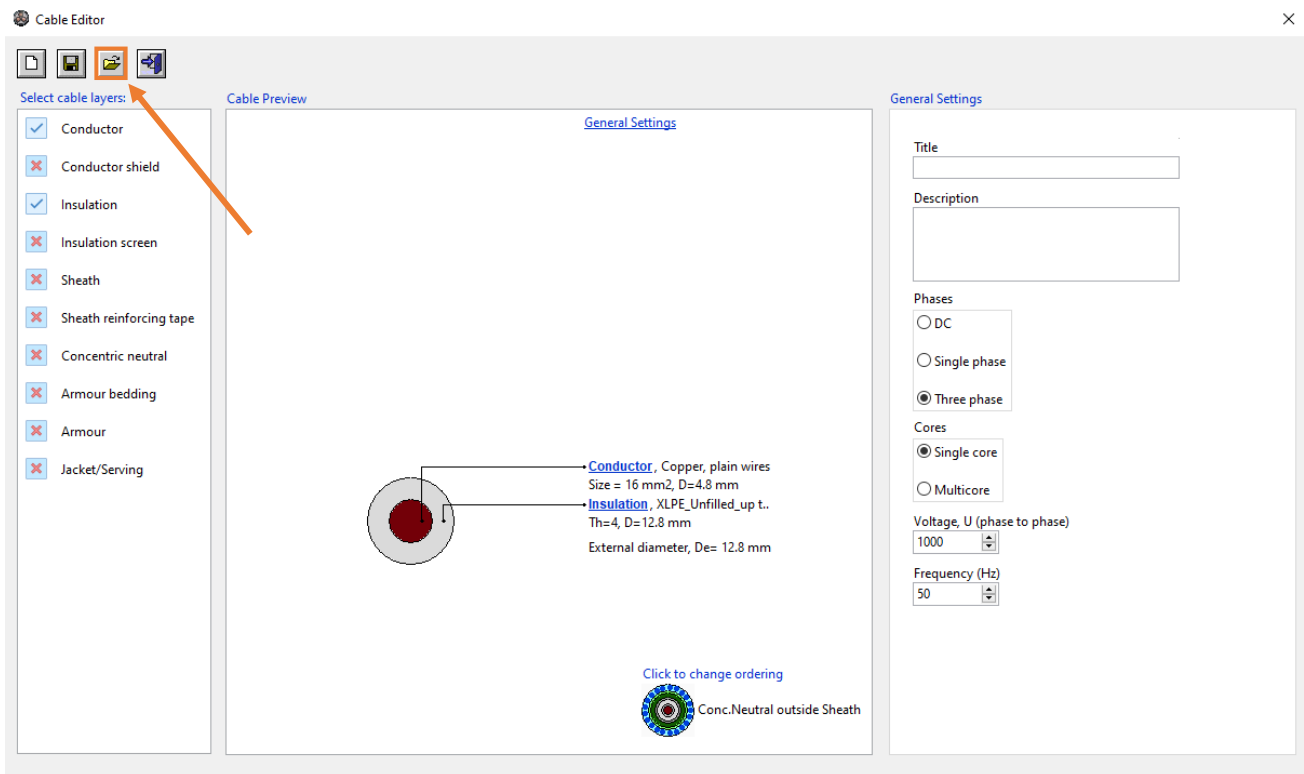

Figure 5 – Cable editor window
- 1 Select the **Cable Models Show** button at the top left-hand corner of Cable HV™. This will open a navigator that allows you to add new or edit existing cables. For the example case, the cables can be selected from Cable HV’s built-in cable database. Click on the manila folder to use pre-set cables as shown by Figure 5.